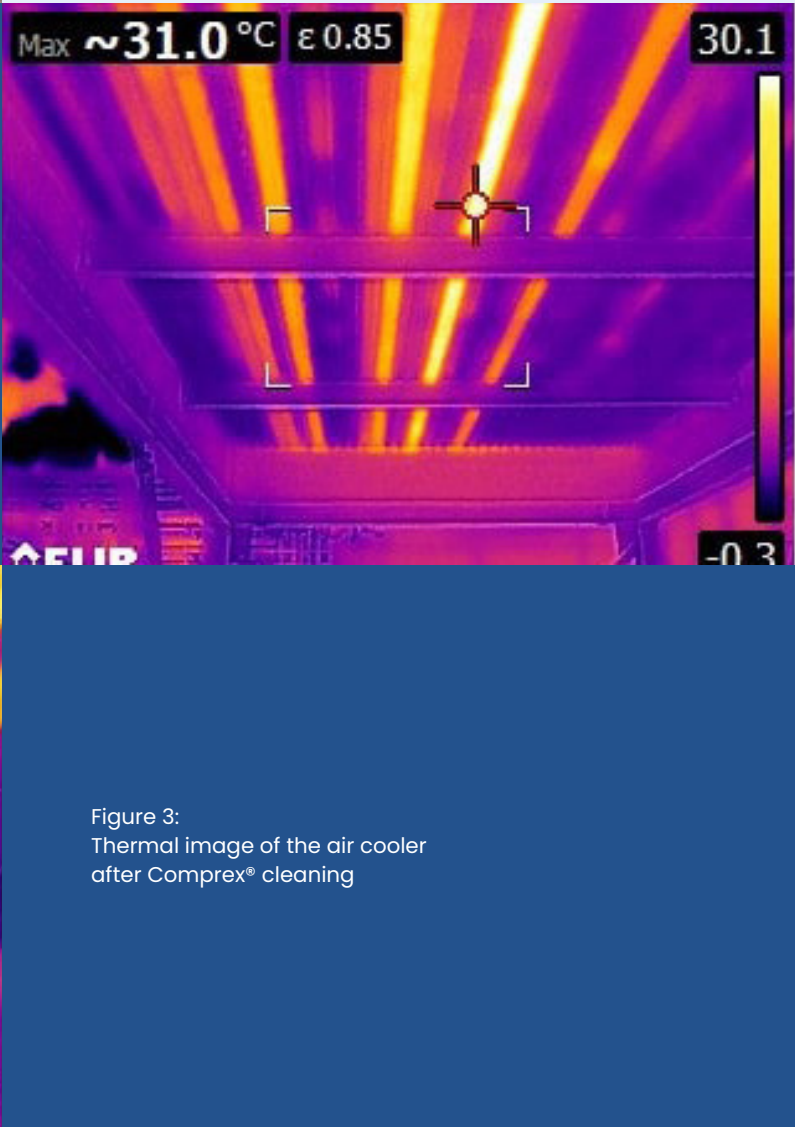

Figure 3:
- › Tubes restored to full flow (see p. 2, Fig. 3)